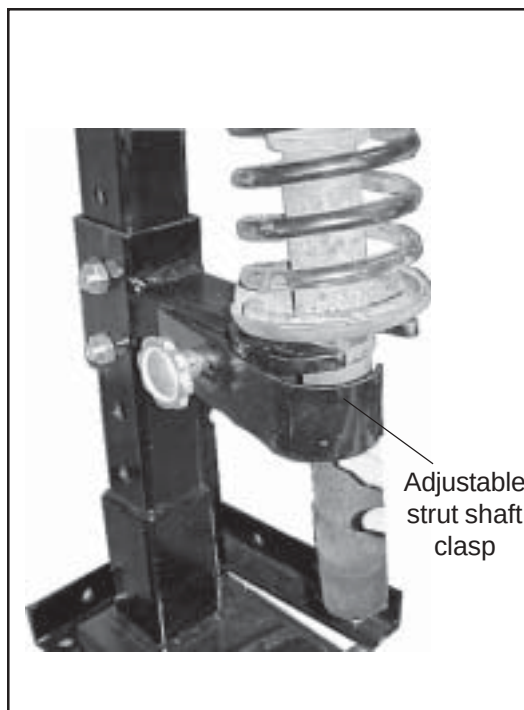

Figure 9
1. Secure the base of strut assembly to the compressor fixture by adjusting the strut shaft clasp (refer to Fig. 9).